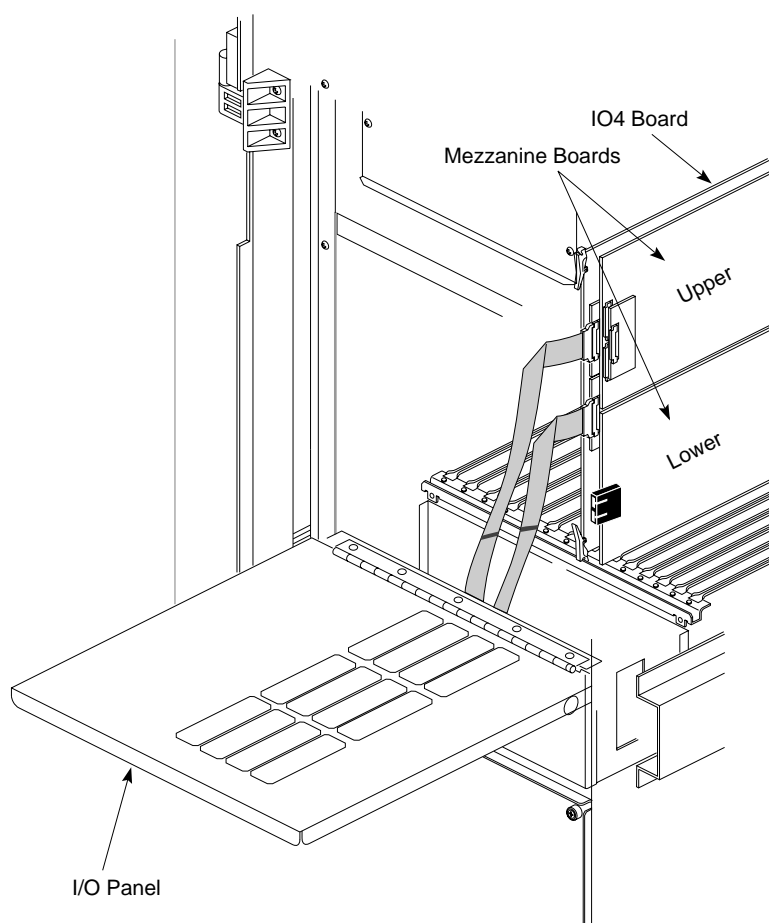

Figure 2-4 Installed IO4 Board
6. Reinstall the IO4 board into the chassis, as illustrated in Figure 2-4. Push the board firmly into the backplane. If the board has a VCAM board, the VCAM board must also seat into the backplane.